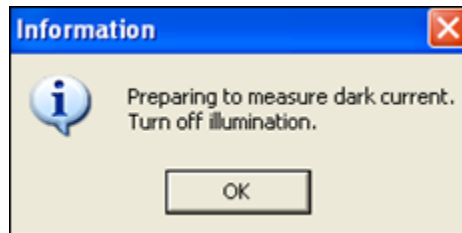

Figure 2.2d
- When you are satisfied with the Preview, press Capture to start the scan. The following message will appear (Figure 2.2d). Do not press OK yet.